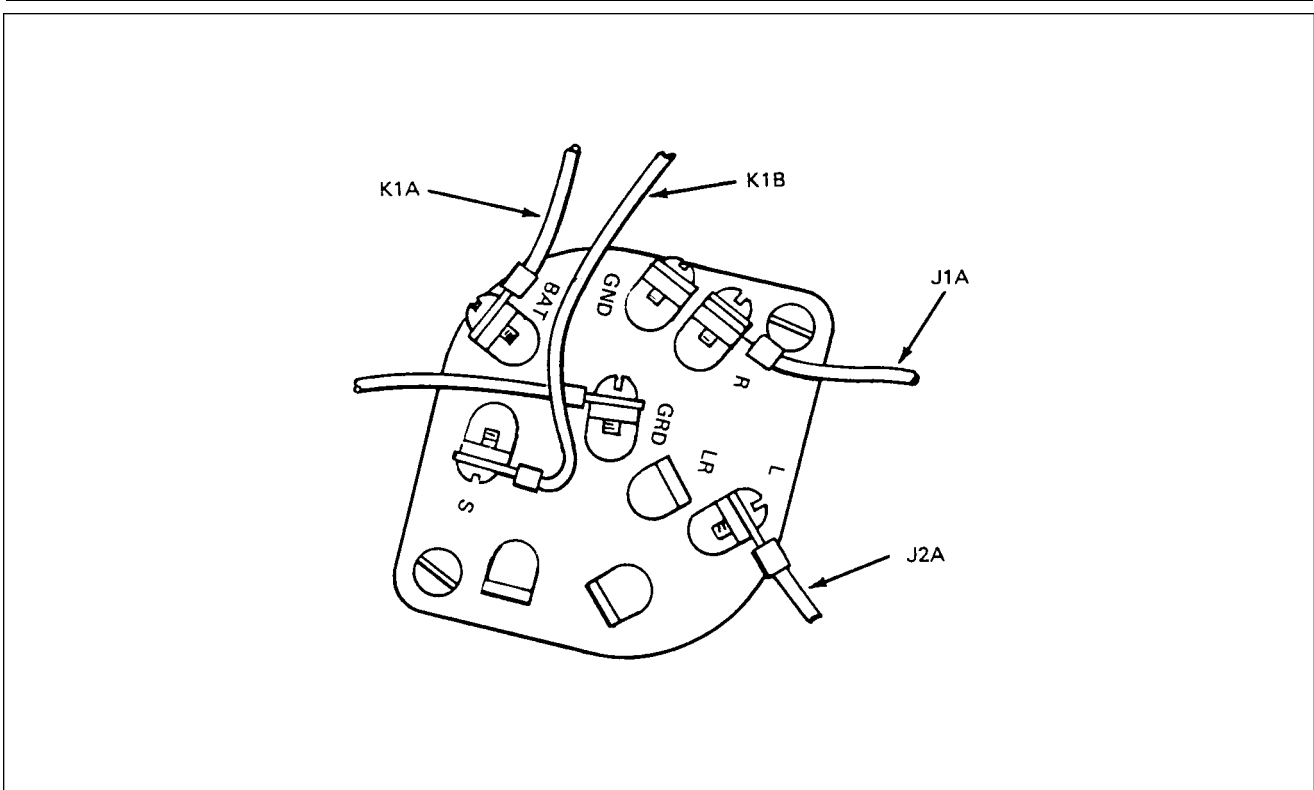

Figure 74-33. Ignition Switch Wire Positions
INSTALLATION OF IGNITION SWITCH (figure 74-33)
1. Attach wires to switch as shown in figure 74-33.